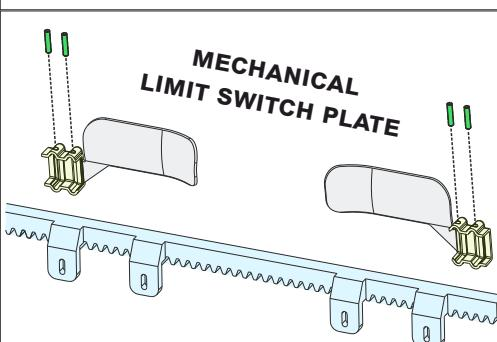

Fig. 13
- **MECHANICAL STOP:** place the plate - Fig. 13 - on the rack according to the desired gate stop position; fix the plate on the rack using the screws